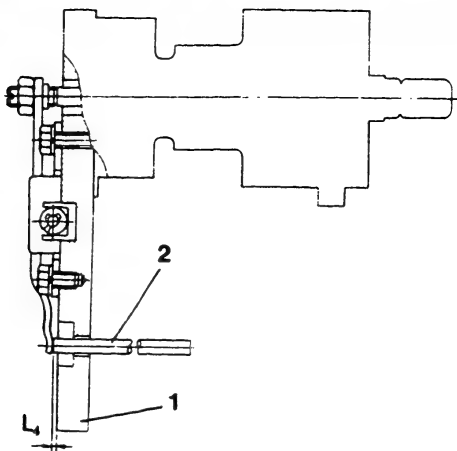

Fig. 176 Checking pushrod (2) protrusion
- 2) With the spacer installed on the governor cover, check that the protrusion of pushrod (2) from the spacer (dimension L_4) is as specified. (Fig. 176)